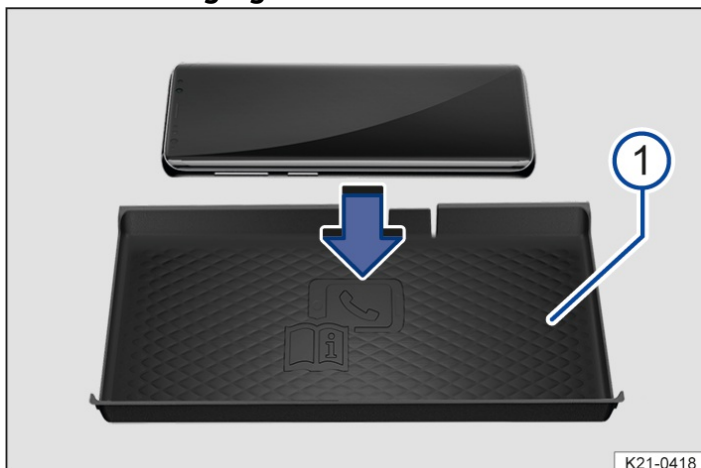

Fig. 1 Illustration: stowage area with mat for the wireless
The stowage area with lining mat → Fig. 1 ① for the wireless charging function is located either in the centre console or in a stowage compartment in the area between the front seats depending on the vehicle.
In some vehicles, the lining mat → Fig. 1 ① has a telephone symbol that marks the centre position of the wireless charging function. The symbol on the lining mat may look different in some vehicles.